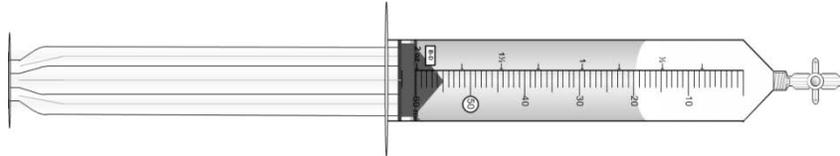

Figure 10. A syringe with 40 mL of water and 20 mL of air
1. Away from stream, where there will be no contamination in the air from the injection, such as upstream and upwind, open stopcock and draw in 20 mL of air so the syringe is filled to the 60 mL mark with air and water (Figure 10). Close stopcock. **VERY IMPORTANT:** To be consistent, be sure to have the bottom of the meniscus at the 20 mL mark (Figure 10).